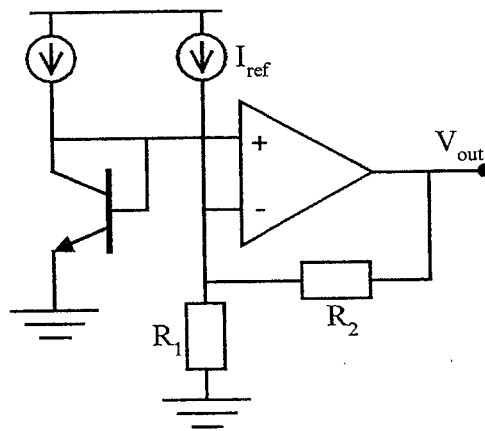

Figure 5
5. (a) *Figure 5* shows a circuit designed to measure temperature. Derive an expression showing how the output voltage varies with temperature, and hence choose suitable values for R_1 and R_2 to give an output voltage sensitivity of $0.1 \text{ V/}^\circ\text{C}$, given that $V_{be} = 0.68 \text{ V}$ at $T = 27^\circ\text{C}$, and $\frac{dV_{be}}{dT} = -2.1 \text{ mV/}^\circ\text{C}$. The output voltage at 0°C should be 0 V .